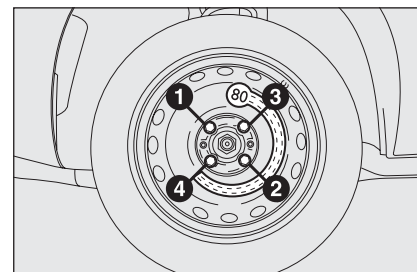

fig. 16
- using the wrench provided, fully tighten the bolts in the sequence shown in **fig. 16**.